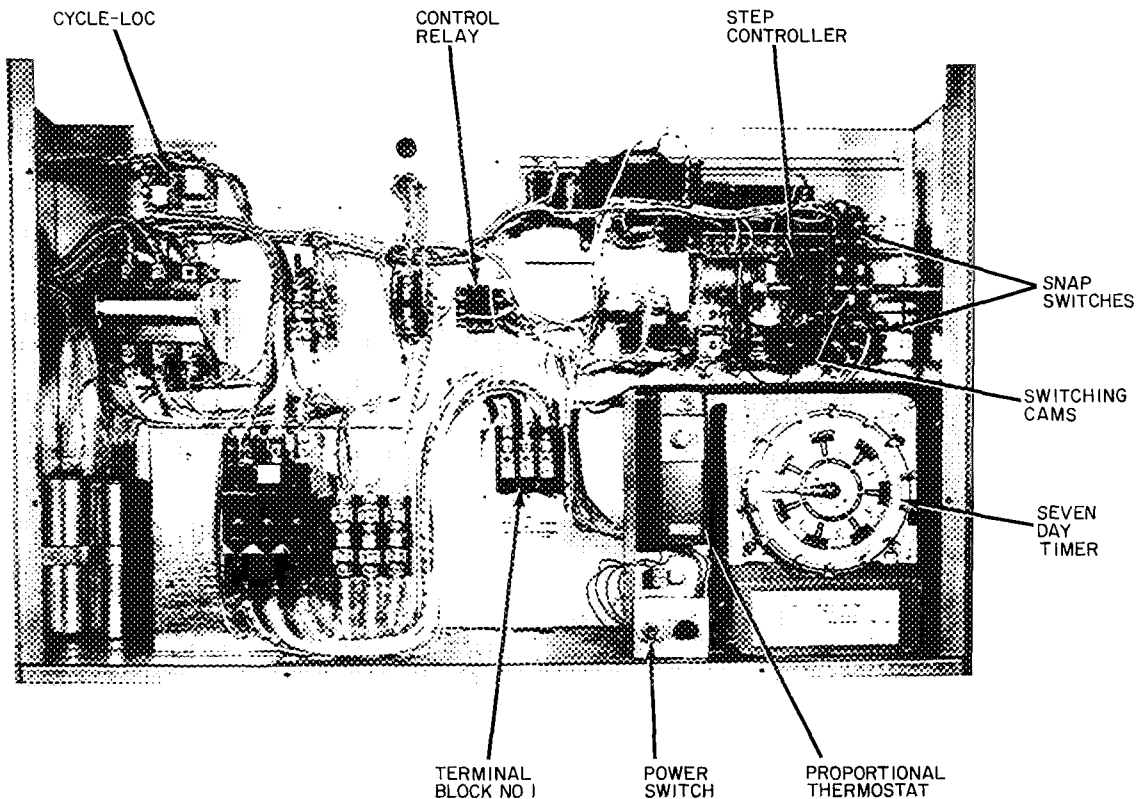

Fig. 18 — Control Panel, Variable Volume Limits
Variable Volume Units — Units suitable for use with variable volume air handling systems are equipped with 2 electric unloaders on the compressor. The control panel for these units (Fig. 18) consists of a step controller, a proportional thermostat, a 7-day timer and a power switch.
1. On the timer dial face (Fig. 18), loosen the thumbscrews which position the system ON and OFF trippers.
PROPORTIONAL THERMOSTAT — The proportional thermostat, Fig. 18, monitors temperature of the conditioned air leaving unit. On signal from the thermostat, sequence motor operates cam switches to load or unload compressor to maintain thermostat setting. Thermostat is factory set at 50 F \pm 6 F but may be reset between 0°F and 100 F as follows: